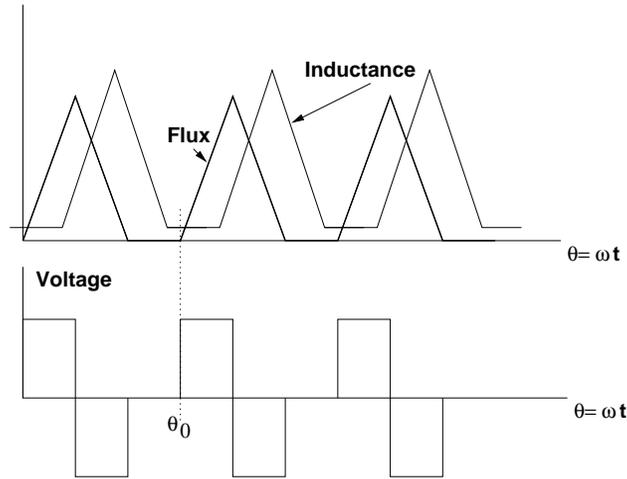

Figure 4: Operating Strategy
The machine is to be operated as shown in Figure 4. For each phase, voltage is applied, driving flux up to the maximum at which point the switches are turned off. Current continues to flow through the diodes of the drive circuit (not shown here), putting negative voltage across the phase until current (and flux) goes to zero. Note that the angle at which the voltage pulse starts,  $\theta_0$ , could vary over a wide range and is a control parameter. For the purposes of this problem assume that the width of the triangular pulse of flux is the same as the overlap angle ( $9\pi/20$ ).
- Now the machine is to be operated at a steady speed of 1000 RPM. Find and calculate the time average torque as a function of the starting angle  $\theta_0$ . Assume the machine is operated as shown in Figure 4 with flux having a triangular pulse form and consequently voltage having positive and negative square pulses. Remember your voltage pulse may overlap more than one variation in inductance.